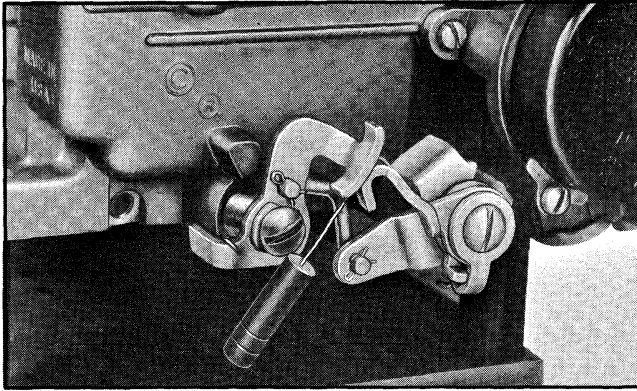

Fig. 6B-100 Checking Secondary Throttle Lever Adjustment
2. The distance from the top of the bowl cover to bottom of "S" pump link should be .300-.325" (Fig. 6B-98). Adjust pump linkage so that all play is removed at closed throttle position and full throttle lever travel is still obtainable.